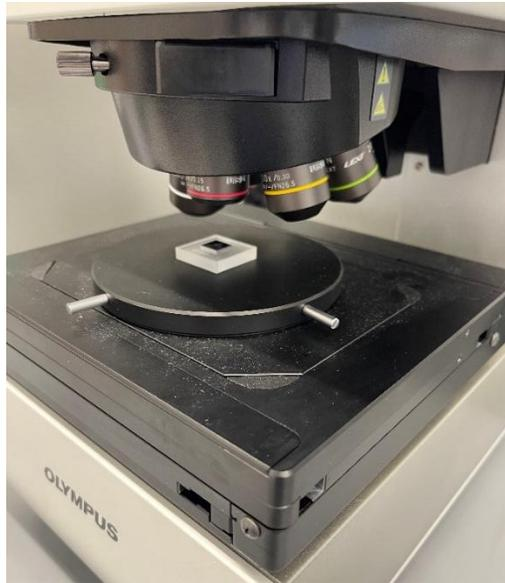

Figure 7. Sample Placement
6. Place your sample onto the stage as shown in Figure 7. Avoid touching the optics or damaging the sample stage during placement.